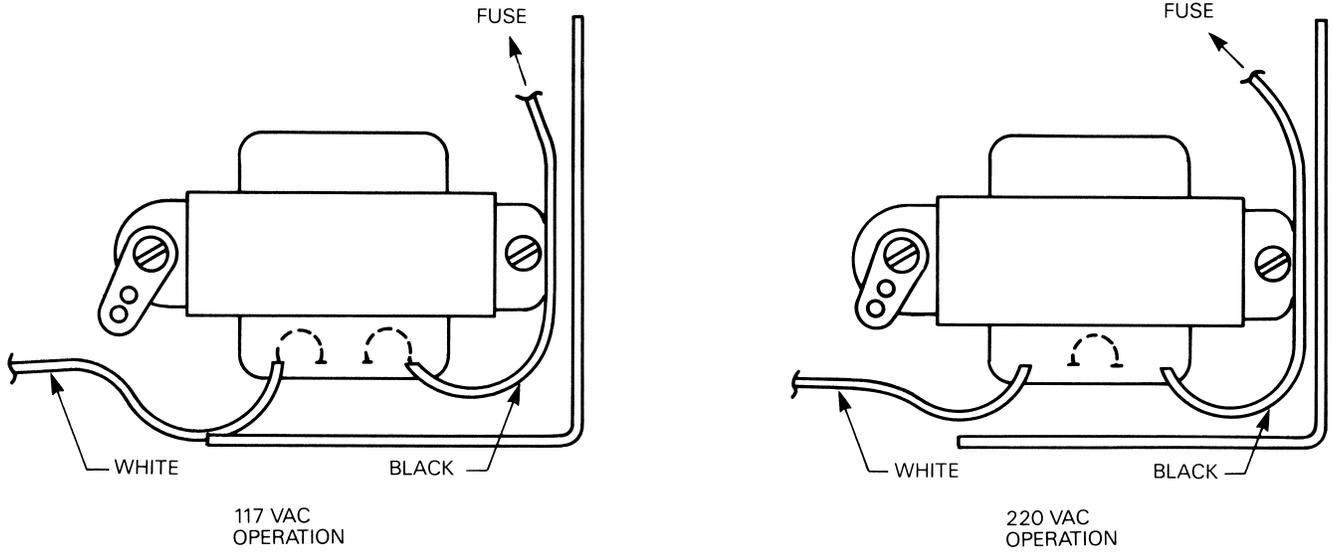

Figure 2-2. 117/220 Vac Jumper Connections
4. Refer to Figure 2-2 and make the appropriate transformer connections via jumpers.